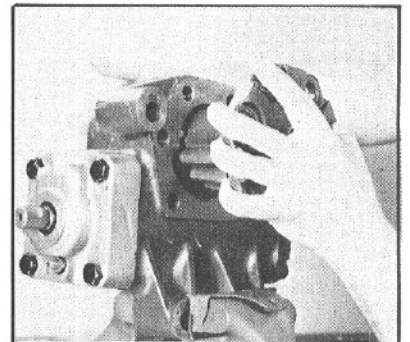

Figure 140
38. Clean off any old tape on the sector shaft (50) serrations. Retape the serrations and bolt groove with one layer of masking tape. Install the sector shaft and side cover (58) into the gear housing (20) as an assembly. Make sure that the center tooth of the sector shaft engages the center space (between the second and third teeth) of the rack piston (FIG. 140).